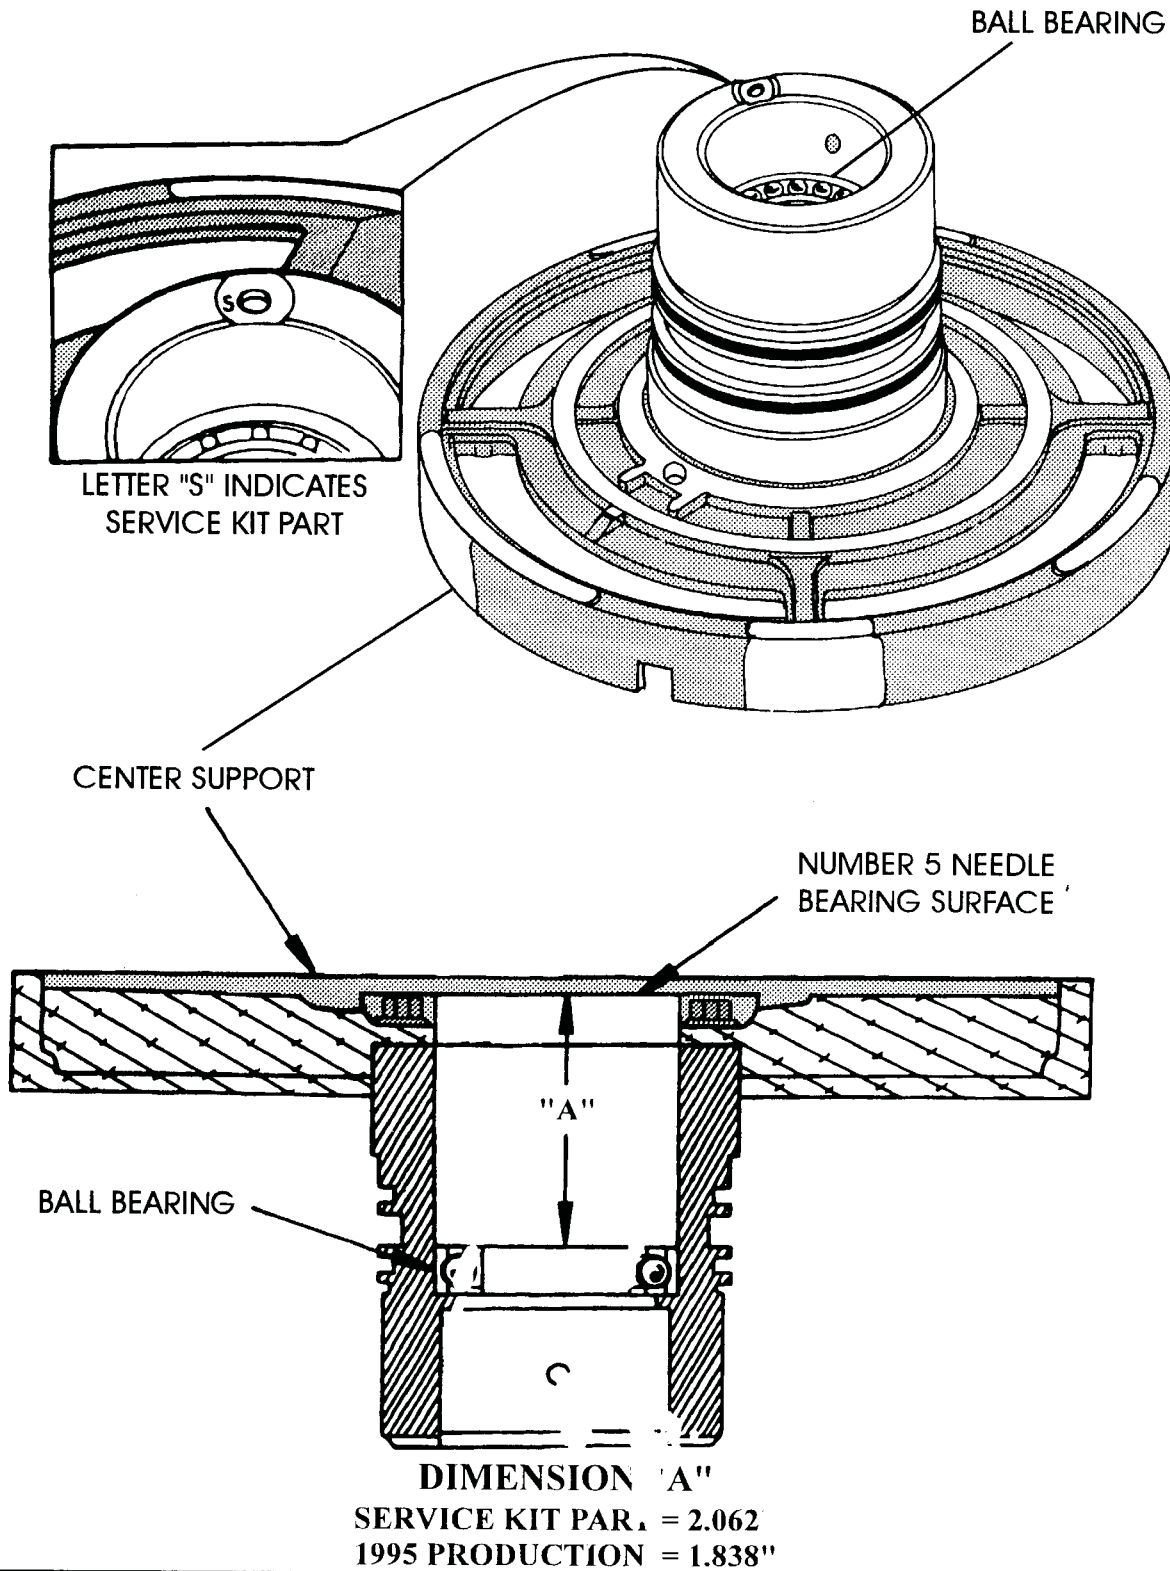

Figure 44
- (1) **CENTER SUPPORT** - Different machining dimensions on the inside bore, to accommodate an added ball bearing that will now support the overdrive center shaft. The new design ball bearing support can be identified as a "Service Part", by the letter "S" stamped on hub, in the location shown in Figure 44. The Service Kit Ball Bearing Center Support has different dimensions than the 1995 production ball bearing center support. Refer to Dimension "A" on the cutaway drawing shown in Figure 44.
- (1) This Service Kit will service all past model E4OD transmissions 1989 thru 1994 model years, when used in it's entirety, and is highly recommended on *all* previous model E4OD units.
- (2) The parts in this Service Kit are different dimensions than 1995 model year production parts and *will not* interchange with 1995 model parts (See Figures 44 and 45).